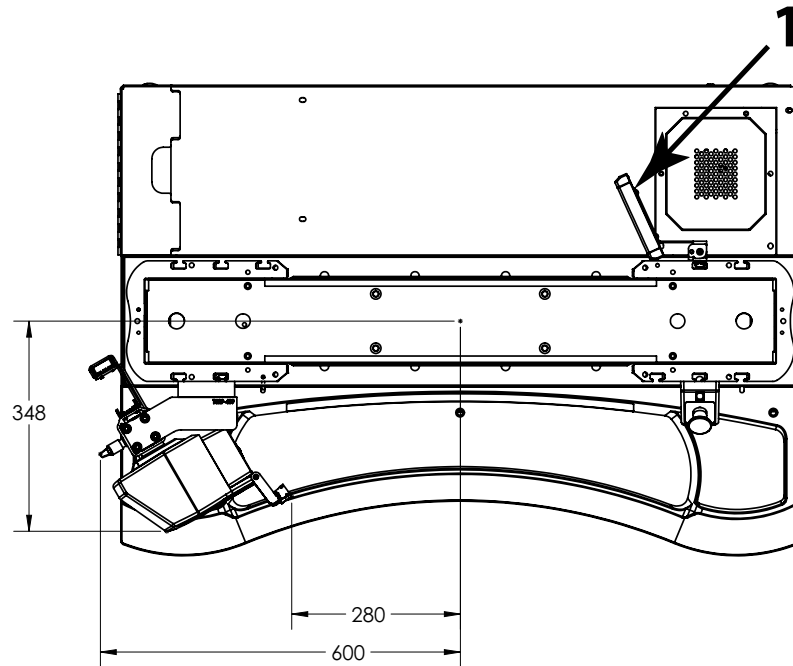

Figure 15. Footprint shown on 5980 Series testing system
Figure 15 on page 40 shows the footprint dimensions of the AverEdge32™ configuration on a 5980 Series testing system, including the back screen (1). Note that the mounting bracket and back screen are installed in the second T-slot from the outer edge of each column.